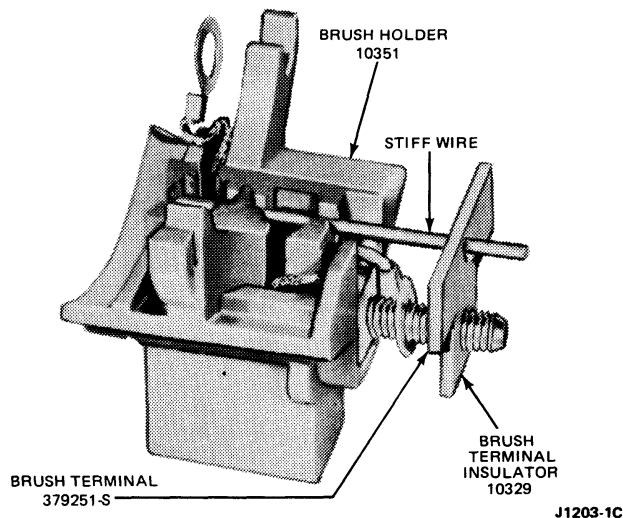

FIG. 8 Brush Holder Assembly
7. Place the brush springs, brushes, brush terminal and terminal insulator in the brush holder and hold the brushes in position by inserting a piece of stiff wire in the brush holder as shown in Fig. 8.